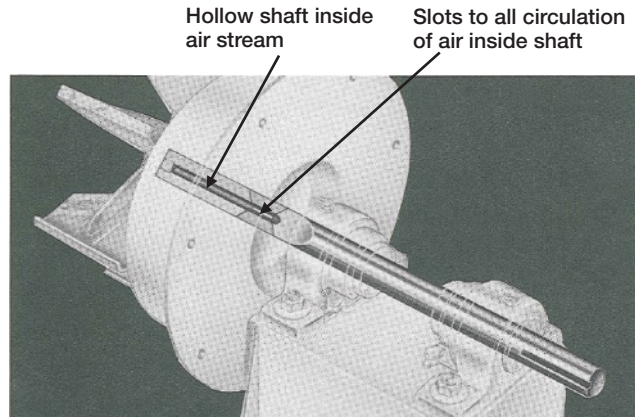

FIGURE 6. Air-cooled shafts with heat slingers.
- Air-cooled shafts with heat slingers, for temperatures from 900°F to 1,850°F (482°C to 1,010°C) (Figure 6).